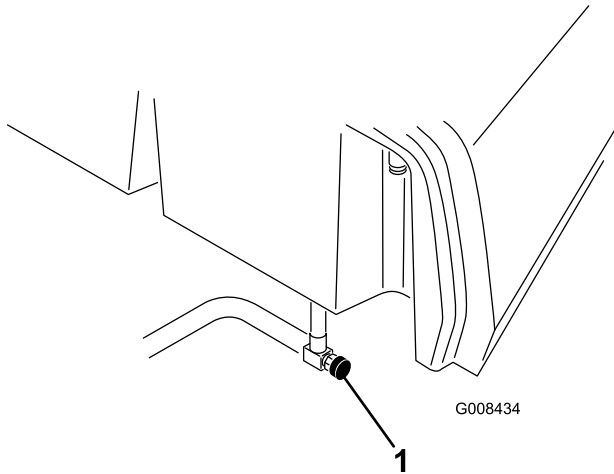

Figure 39
1. Close the fuel shut off valve (Figure 39) below the fuel tank.